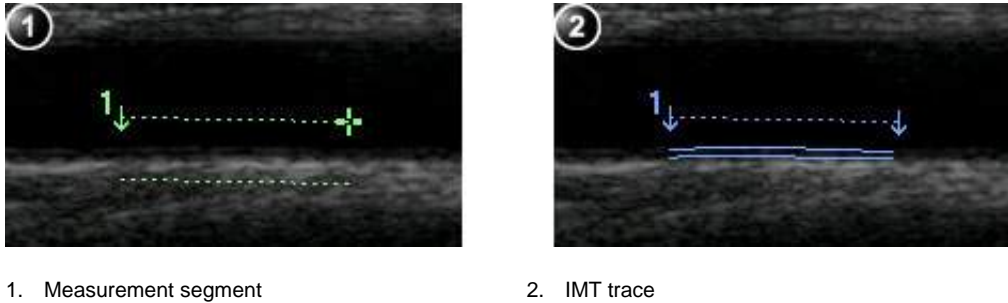

Figure 8-77. IMT Measurement segment and traces
6. Place the cursor in the artery closer to the posterior wall and press **Select** to anchor the start of the search region (Figure 8-77, left).
7. Move the cursor parallel to the artery to define the end point of the search region. Make sure the Intima and Media layers are within the search region (indicated by the lower dotted line in Figure 8-77, left).
Press **Select** to anchor the point. For the posterior wall the contour detector searches for the leading of the edges of the intima and adventitia layers. The detected contours are drawn in the image (Figure 8-77, right).